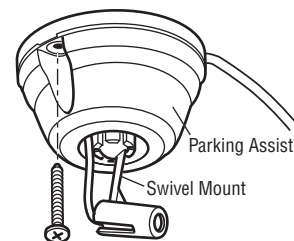

Figure 2
**If installing one parking assist:** Twist like colored wires for the parking assist and the safety sensors together. Insert twisted wires into quick-connect holes: white to white and white/black to grey (Figure 2).\*